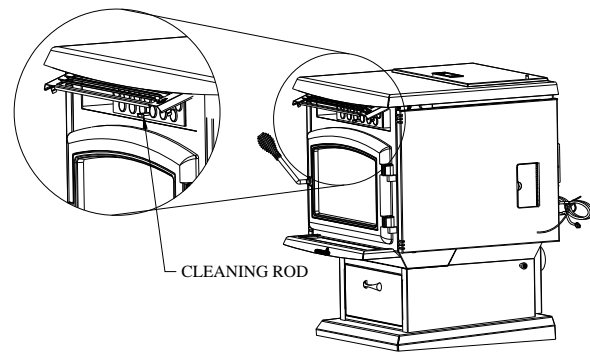

FIGURE 19
- a. **Heat Exchange Tubes** – Your BIO-45 MF stove is designed with a built-in heat exchanger tube cleaner. This should be used weekly to remove accumulated ash on the tubes. To clean the heat exchanger, open the door and grab the cleaning rod located behind the louvers (just above the stove's door) and push it forward. Close the door. Slide the cleaning rod back and forth two or three times from front to back (refer to figure 19). When finished, push the cleaning rod back in, behind the louvers.